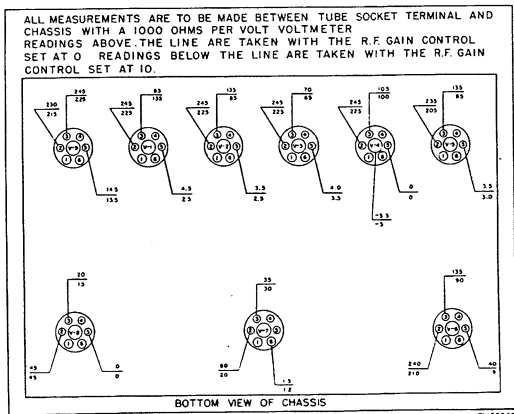
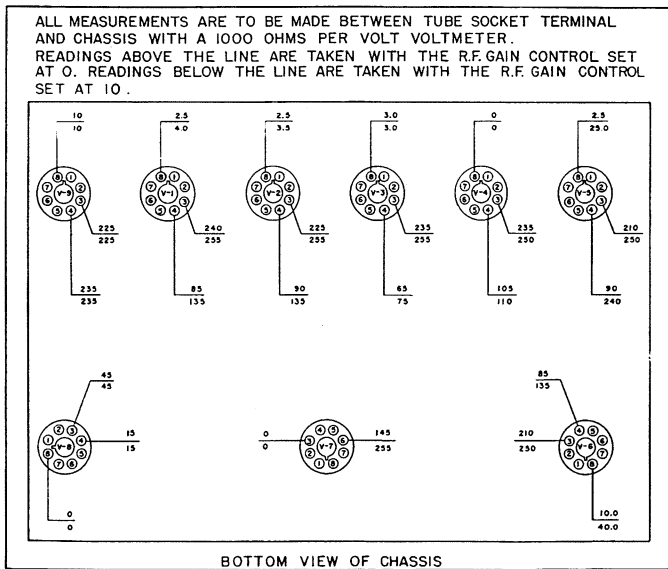

Figure 32. Radio Receiver R-140/FSM-1 (with glass tubes), and National HRO-M type receivers—tube socket voltage diagram.
Figure 33. Radio Receiver R-110/F5M-1 (with metal tubes), and National HRO-5 type receiver—tube socket voltage diagram.
A check of the voltages between each tube socket terminal and ground (chassis) is an efficient method of isolating a defective stage. A diagram to show tube socket voltage measurements is given in figure 32 for the HRO-M series receivers and in figure 33 for the HRO-5 series receivers. These diagrams apply also to Radio Receiver R-140/FSM-1. The readings are to be made under the following conditions.
c. Values given in figures 32 and 33 are for two conditions:
(1) Readings above the line are taken with the R.F. GAIN control set at 0.
(2) Readings below the line are taken with the R.F. GAIN control set at 10.